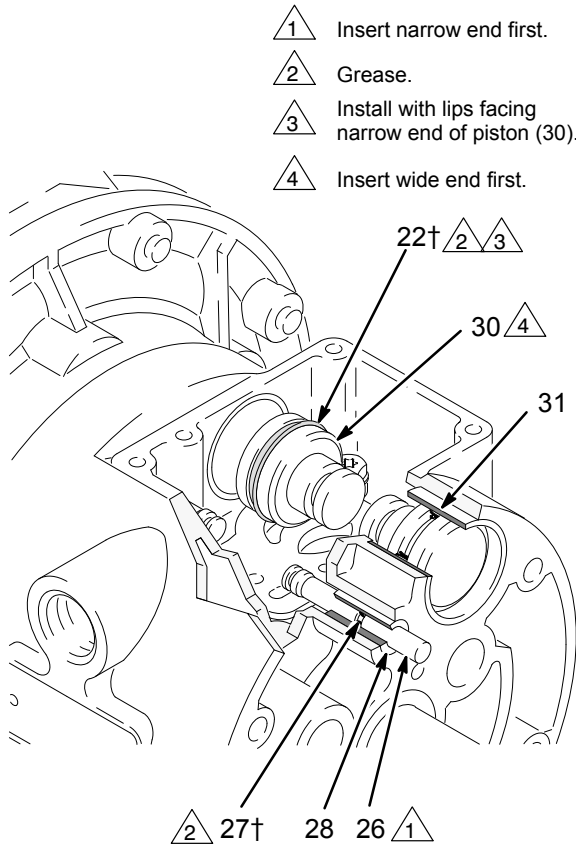

Fig. 10
4. Pull the two actuator pistons (30) out of the bearings (31). Remove the u-cup packings (22) from the pistons. Pull the push pins (26) out of the bearings (28). Remove the o-rings (27) from the push pins. See Fig. 10.
6. Inspect the bearings (28, 31) in place. See Fig. 10. The bearings are tapered and, if damaged, must be removed from the outside. This requires disassembly of the fluid section. See page 20.
4. Install an o-ring (27†) on each push pin (26). Grease the pins and o-rings. Insert the pins into the bearings (28), **narrow** end first. See Fig. 10.
5. Install a u-cup packing (22†) on each actuator piston (30), so the lips of the packings face the **narrow** end of the pistons. See Fig. 10.
6. Lubricate the u-cup packings (22†) and actuator pistons (30). Insert the actuator pistons in the bearings (31), **wide** end first. Leave the narrow end of the pistons exposed. See Fig. 10.